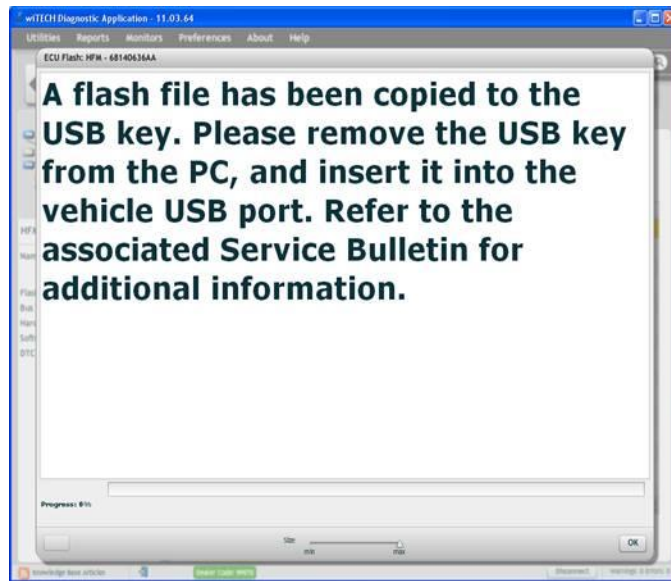

Fig. 7 Successful Completion Dialog
7. Did the Successful Completion Dialog (Fig. 7) appear indicating the update files have been copied to the USB memory stick?